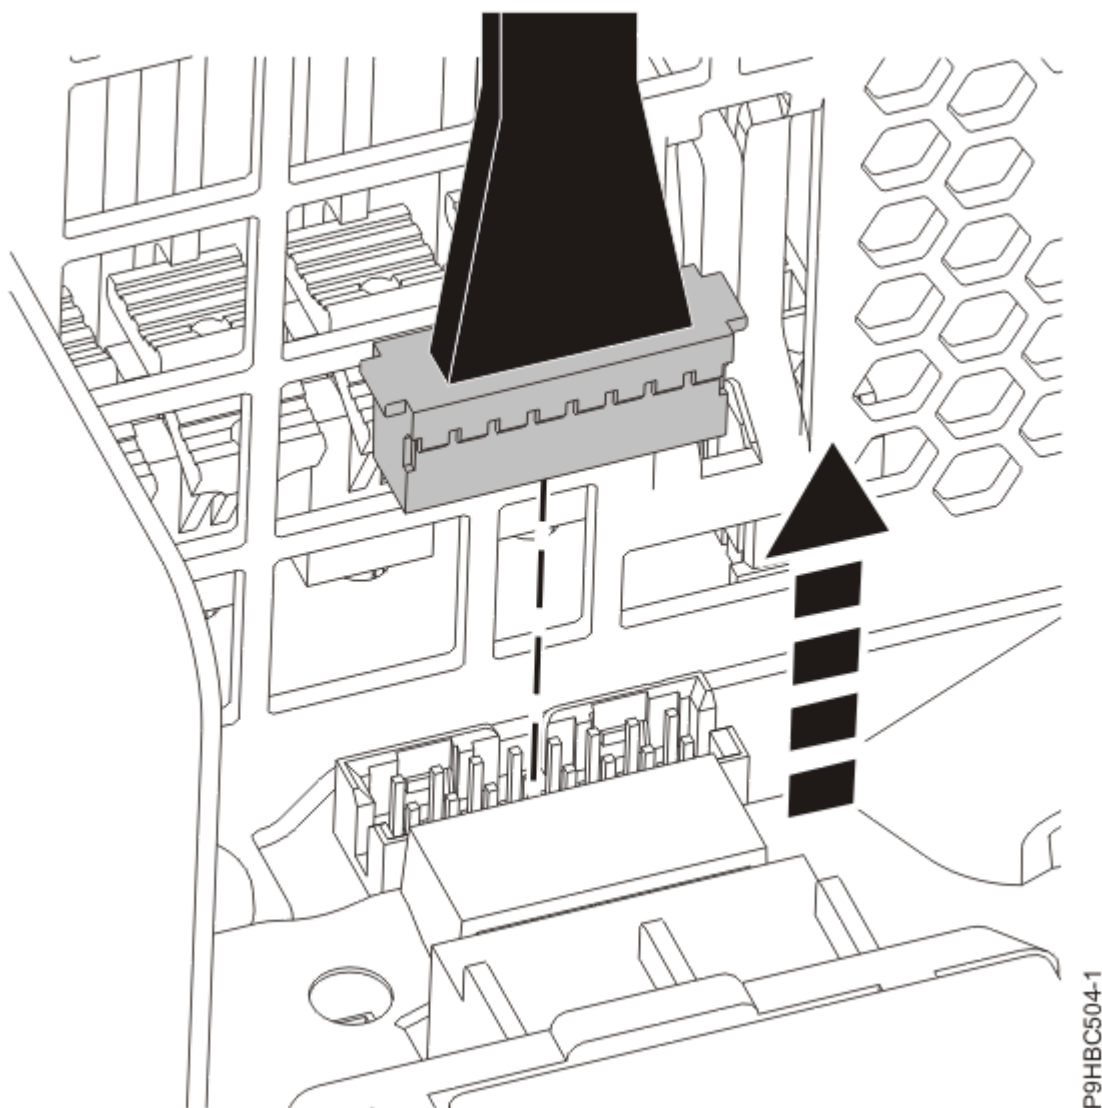

Figure 31. Disconnecting the control panel cable from the system backplane
3. Unplug the control panel cable from the system backplane as shown in Figure 31 on page 35.